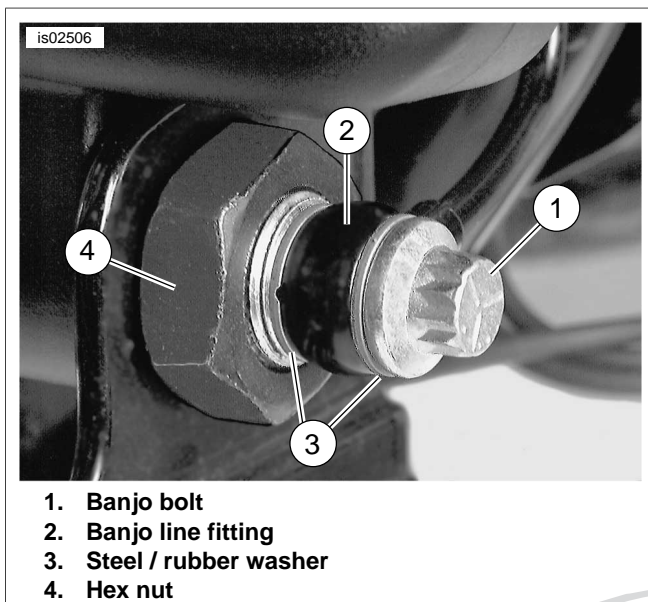

Figure 2. Banjo Fitting
7. See Figure 2. Remove banjo bolt (1) and two steel/rubber washers (3) to disconnect brake line banjo fitting (2).